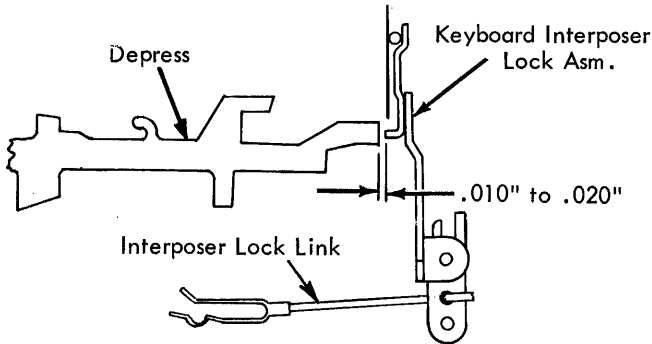

FIGURE 61. Keyboard Interposer Lock Link
- b. Adjust the keyboard interposer lock link so there is .010" to .020" clearance between the interposer and the interposer lock assembly with everything in the unlocked position (Fig. 61).